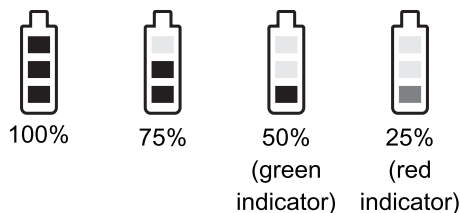

Fig. 31
- (A) Power on: Press the power button 17 and battery indicators 16 light up.
- (B) Power off: Press the power button for two seconds and battery indicators are off.
- (C) Battery level indicators, Fig. 31.